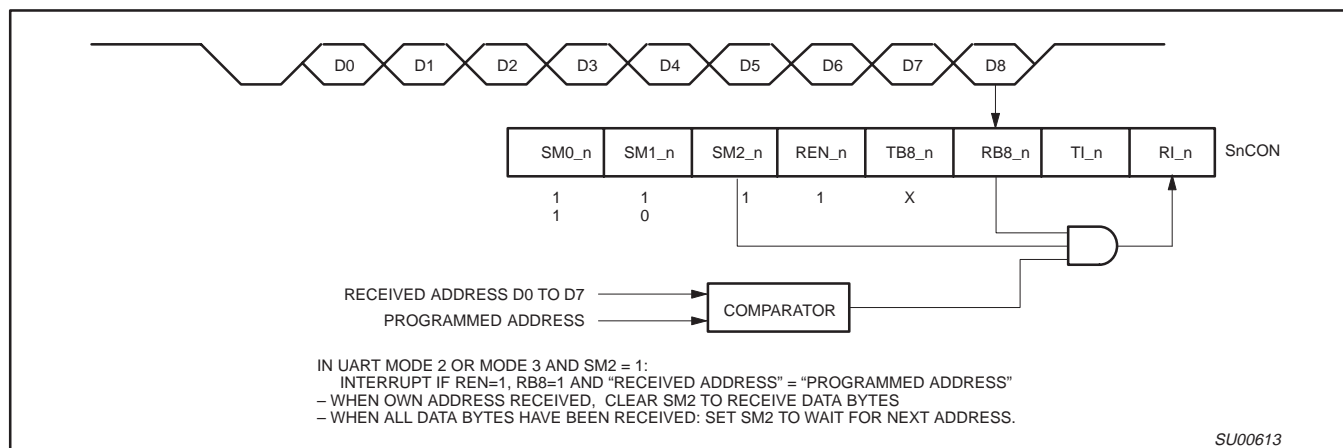

Figure 18. UART Multiprocessor Communication, Automatic Address Recognition
Automatic Address Recognition is a feature which allows the UART to recognize certain addresses in the serial bit stream by using hardware to make the comparisons. This feature saves a great deal of software overhead by eliminating the need for the software to examine every serial address which passes by the serial port. This feature is enabled by setting the SM2 bit in SCON. In the 9 bit UART modes, mode 2 and mode 3, the Receive Interrupt flag (RI) will be automatically set when the received byte contains either the "Given" address or the "Broadcast" address. The 9 bit mode requires that the 9th information bit is a 1 to indicate that the received information is an address and not data. Automatic address recognition is shown in Figure 18.